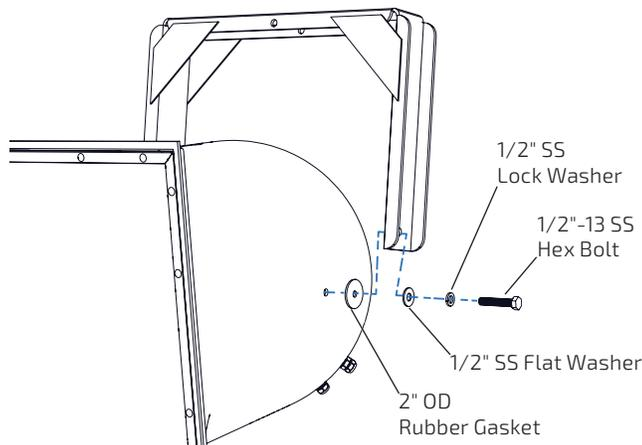

Figure 4a. Mount the R2-MAX loudspeaker to the yoke
□ The R2-MAX loudspeaker is shipped with the yoke attached. If it is necessary to position the yoke differently, please remove the mounting hardware and reserve the hardware for repositioning. Attach the R2 loudspeaker to the yoke. See Figure 4a. Determine and orient the loudspeaker correctly for the coverage desired for your application. Mount the loudspeaker to the yoke with the rubber washers between the yoke and enclosure and attach as shown. This is intentionally a tight fit to maintain weather resistance. Tighten bolts to finger tight (enough to hold the loudspeaker in position).